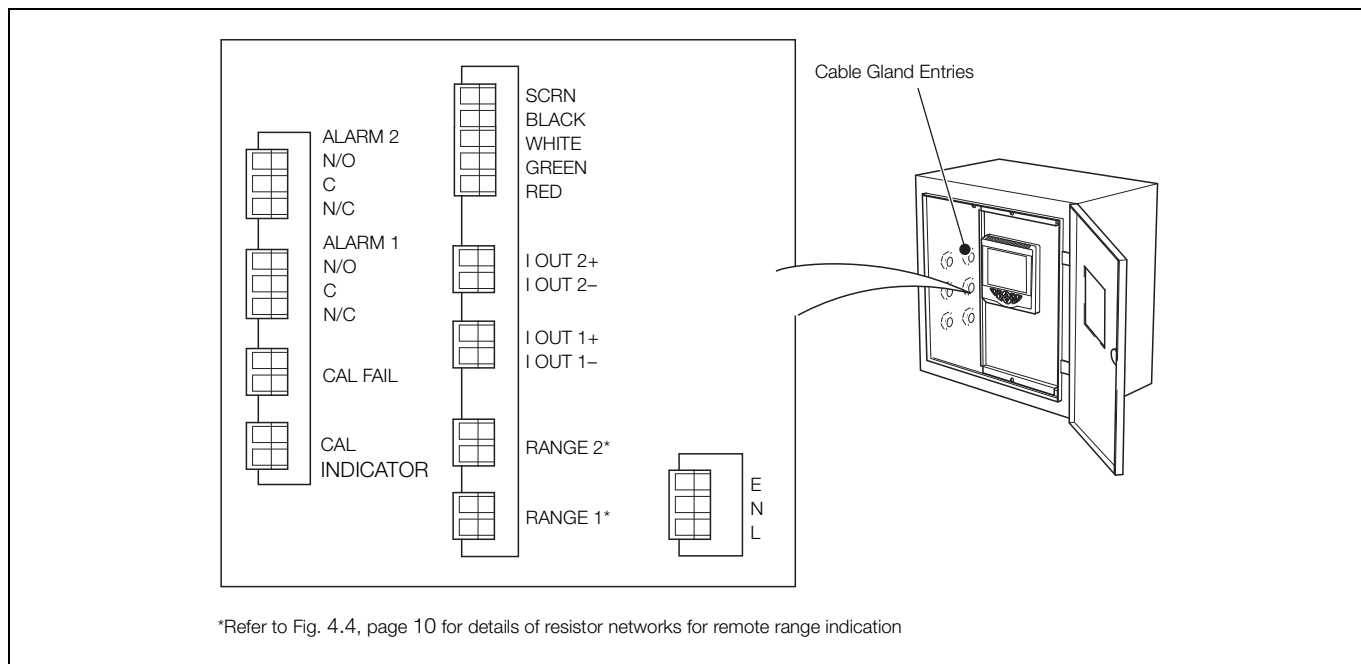

Fig. 4.3 Transmitter Unit Cable Gland Entries and Electrical Connections
4. Pass the remaining cables through the glands. Prepare the cable ends and attach them to the terminal blocks as shown in Fig. 4.3.